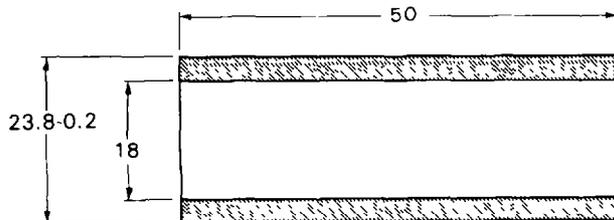

Figure 124 Locally Manufactured Auxiliary Bush
- (14) If required, remove the lock washers (31) and detach the fulcrum lever from the guide lever and the linkage (32) from the fulcrum lever, taking care not to lose the starting spring.
- (15) If the sliding sleeve requires replacement remove the circlip (45) and press out the knuckle, complete with the bearing plate (43), spacer bush (44) and shims (46) using an auxiliary bush of the dimensions shown in Figure 124.